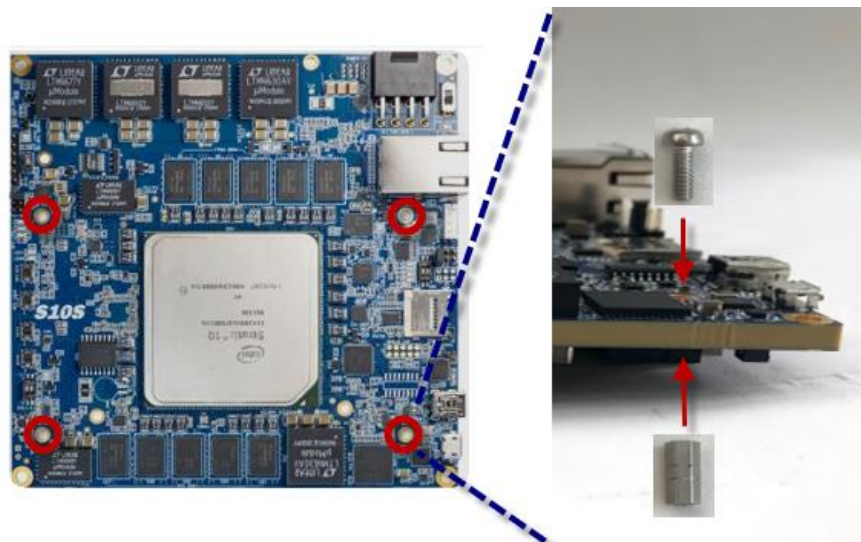

Figure 3-2 Assemble M2.5 Screws and JSOM-B on Apollo S10
1. Use Philips Screwdriver and 5.0mm Hex Socket to screw four M2.5 Screws into four JSOM-B on Apollo S10, as show in **Figure 3-2**.